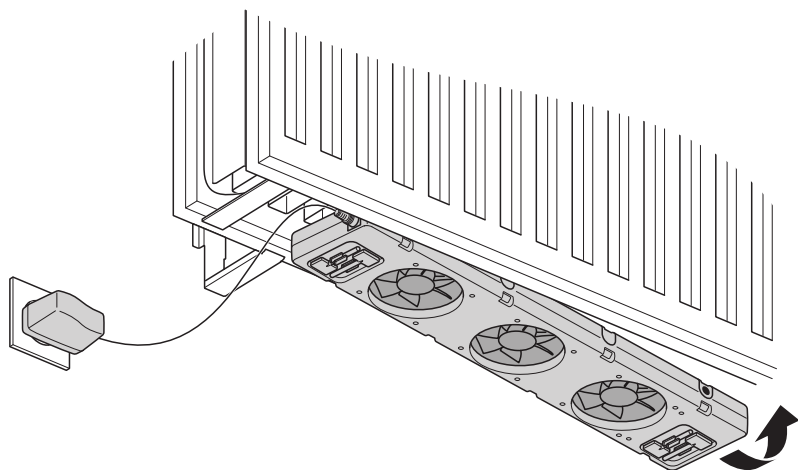

Fig. 2 – Attaching the SpeedComfort (A).
2. Choose a spot where the wall brackets and radiator supports will not be in the way. Attach the **SpeedComfort** (A) to the underside, between the panels of the radiator, using the **adjustable magnets** (B) (see Fig. 2). The SpeedComfort (A) can also be mounted at the top of the radiator, beneath a cover cap.